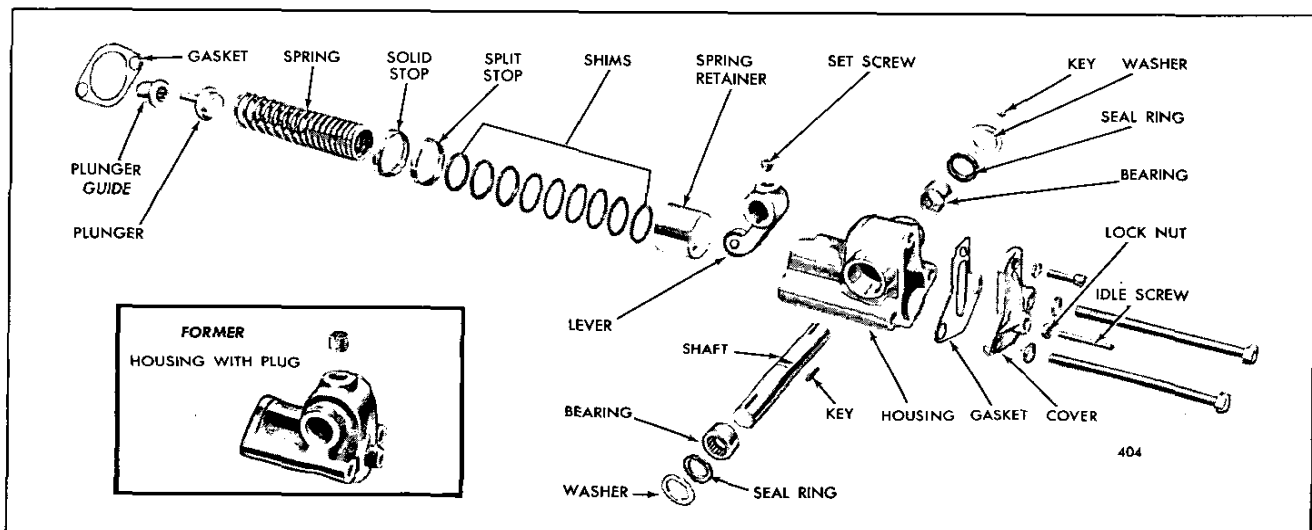

Fig. 6 - Variable Speed Spring Housing Assembly
1. Lubricate the speed control lever shaft needle bearings with Shell Alvania No. 2 grease, or equivalent. Then start one of the bearings, numbered end up, straight in the bearing bore in the right hand side of the spring housing as viewed in Fig. 6.